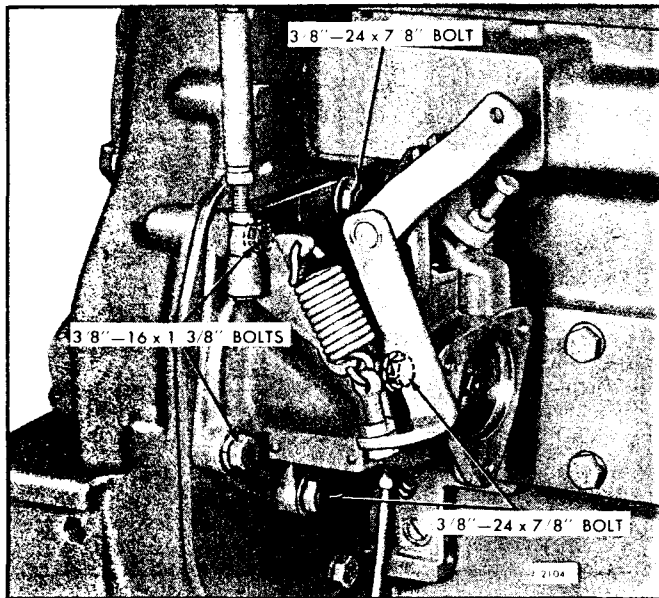

Fig. 6 - Location of Governor Retaining Bolts
2. Install the governor against the engine end plate, so the teeth of the governor drive gear mesh with the teeth of the balance shaft gear or camshaft gear. Install and tighten the three bolts with plain copper washers (only) and two bolts with plain steel washers and lock washers (Fig. 6).